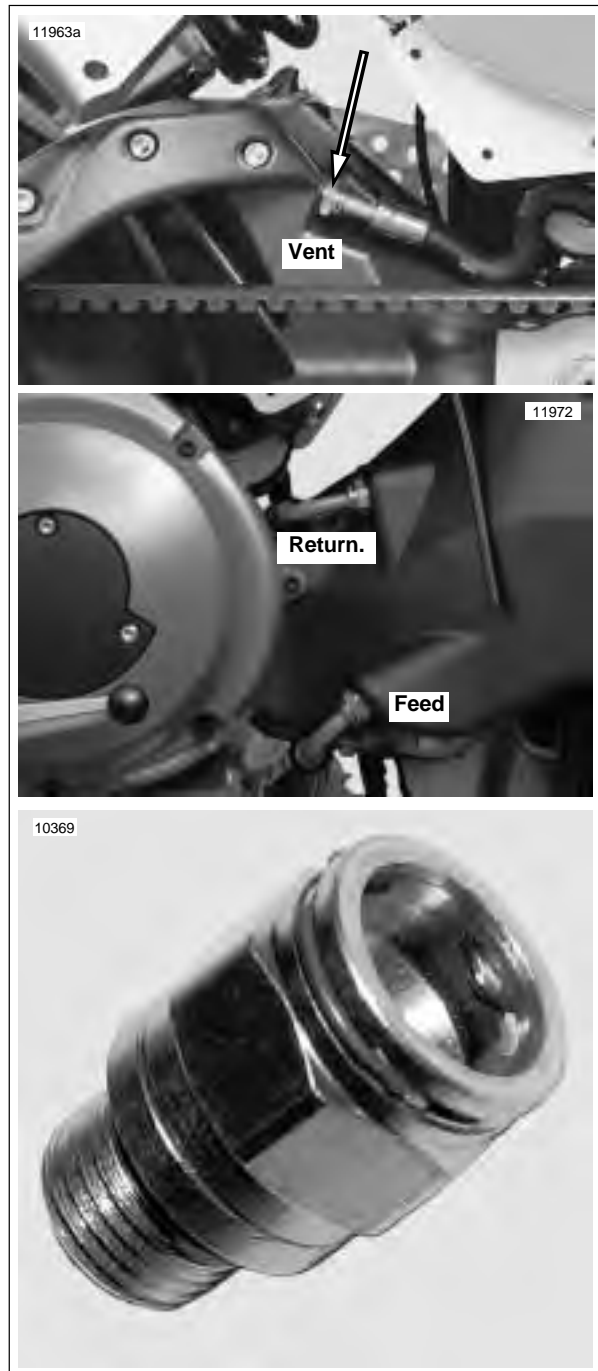

Figure 2-84. Jiffy Tite, Quick Disconnect Oil Lines and Fittings (Typical)
1. See Figure 2-84. Remove oil line fittings from swingarm.
3. See Figure 2-84. Install oil line fittings on swingarm. Tighten to 108-156 in-lbs (12-17.6 Nm). See 3.10 OIL LINE FITTINGS.